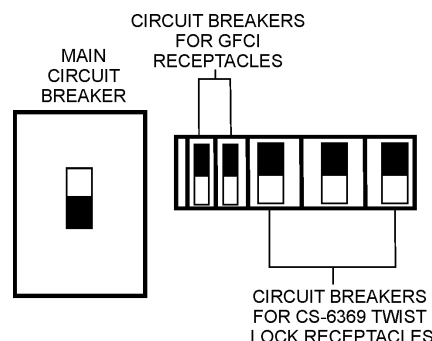

Figure 42. Main, Aux. and GFCI Circuit Breakers (OFF)
1. Place the **main, G.F.C.I.** and **aux.** circuit breakers (Figure 42) in the **"OFF"** position prior to starting the engine.